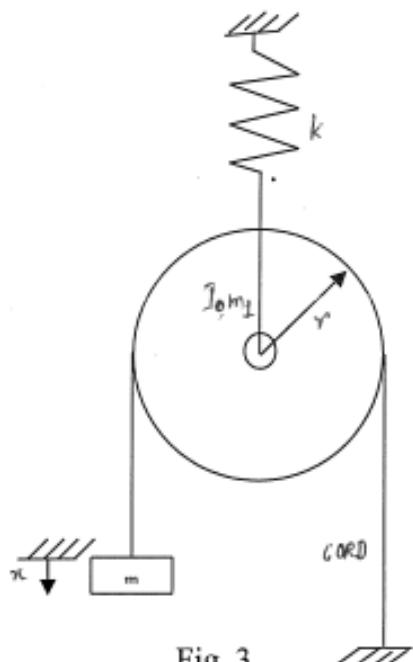

Fig. 3
- b) Determine the equation of motion and the natural frequency of the system shown in Fig. 3 by